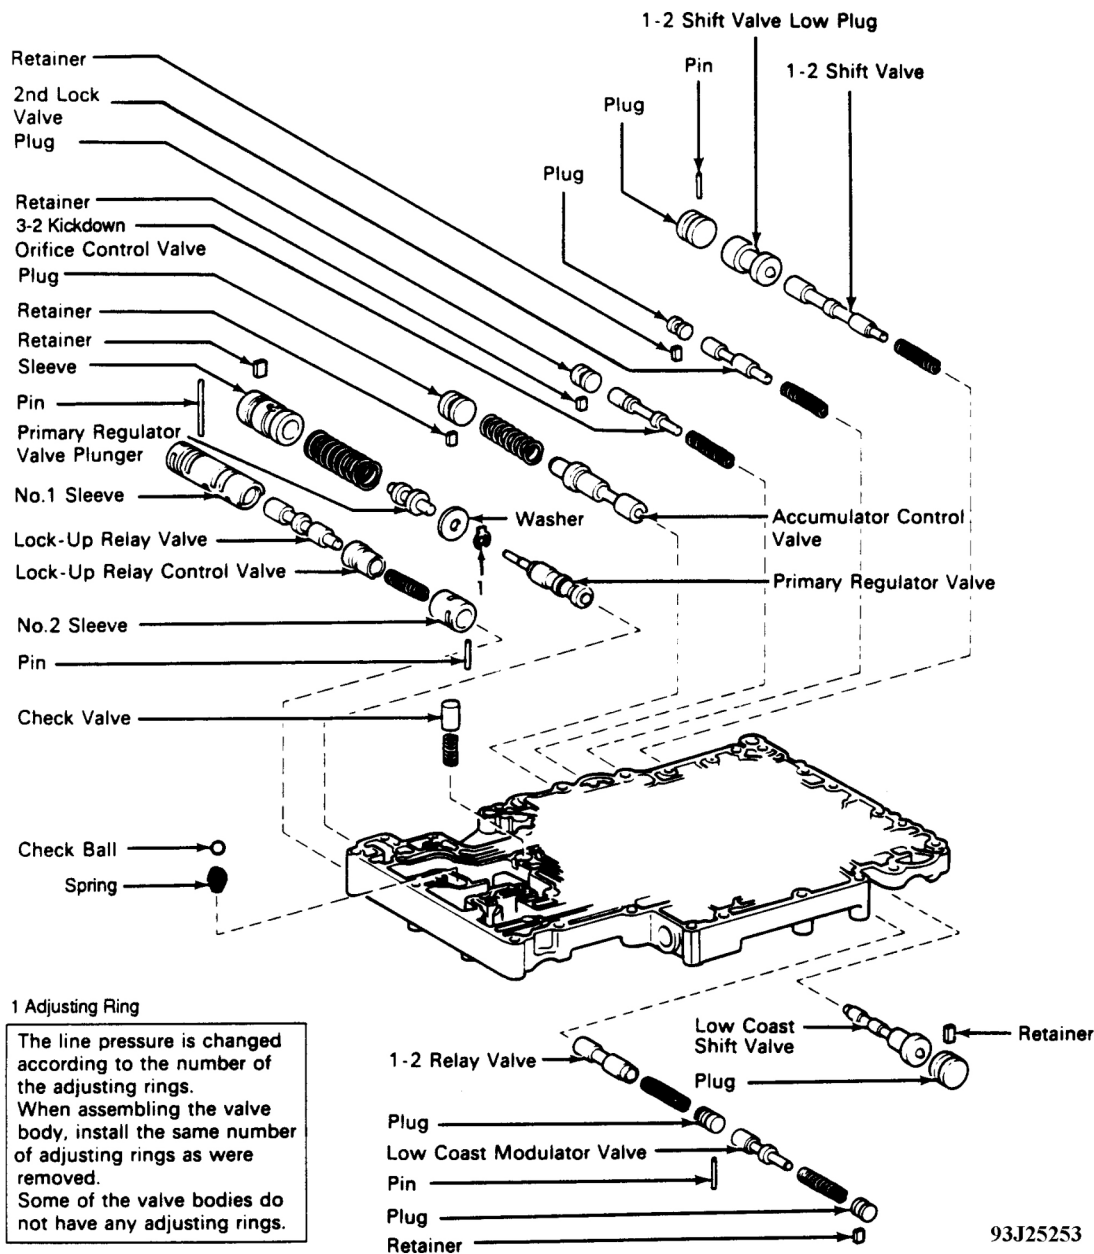

Fig. 40: Exploded View Of Lower Valve Body
1. Remove retainer, plug and low coast shift valve. Remove retainer, plug, spring and low coast modulator valve. Remove pin, plug, spring and 1-2 relay valve. Remove check ball and spring. Remove check valve and spring. See **Fig. 40** .
2. Install low-coast shaft valve with small end first. Install 1-2 relay valve and low coast modulator valve. See **Fig. 40** . Install check valve and spring.